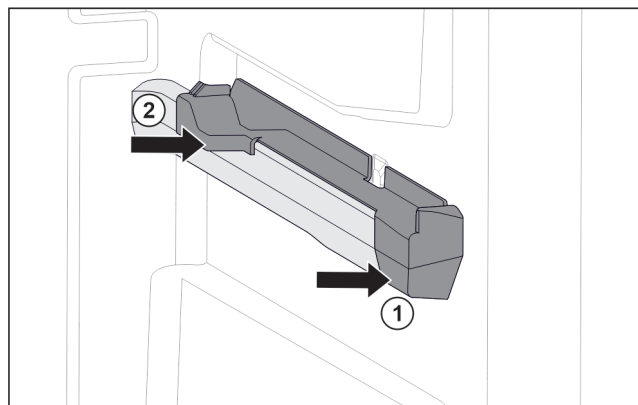

Fig. 32 Attachment on the right moulded rib
- ▶ Position attachment on moulded rib at the front. Fig. 32 (1)
- ▶ Press on attachment at the back. Fig. 32 (2)